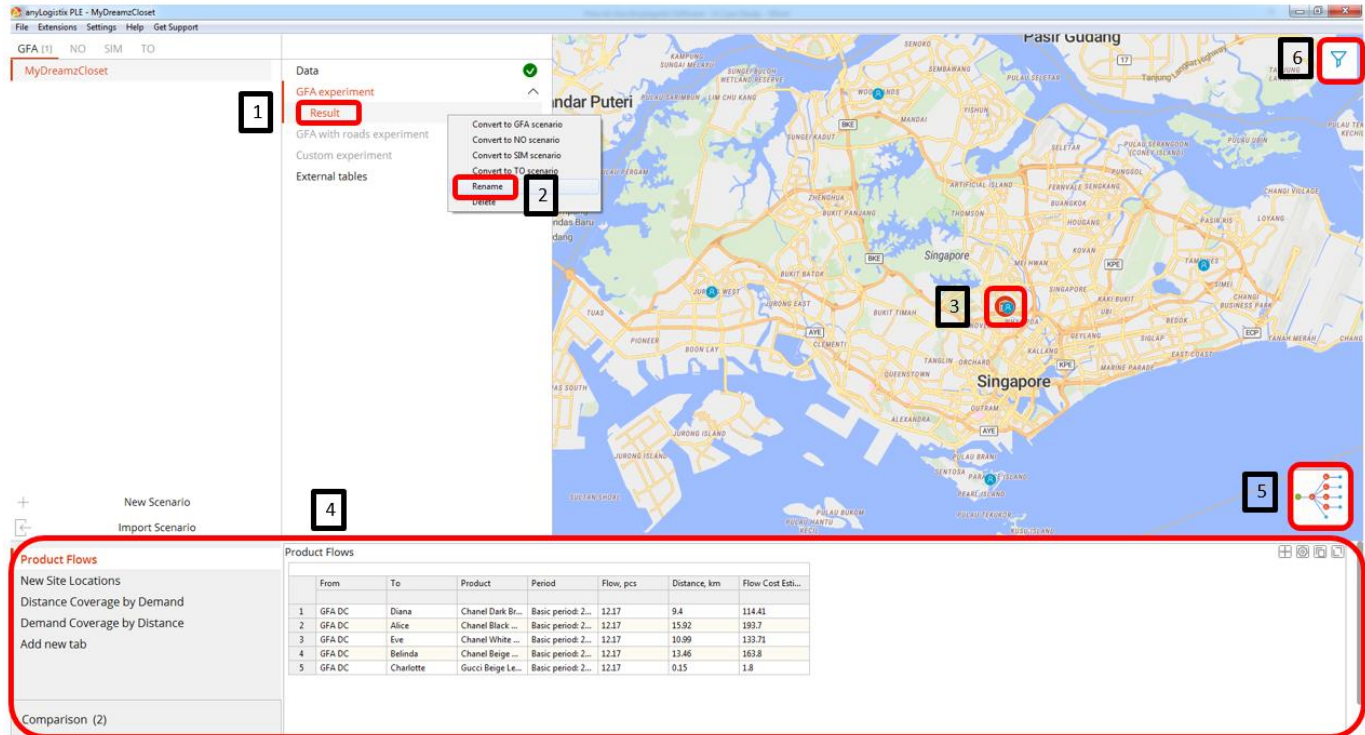

Figure 27: Results of GFA
- ✓ You should see Figure 27 after clicking the play button.